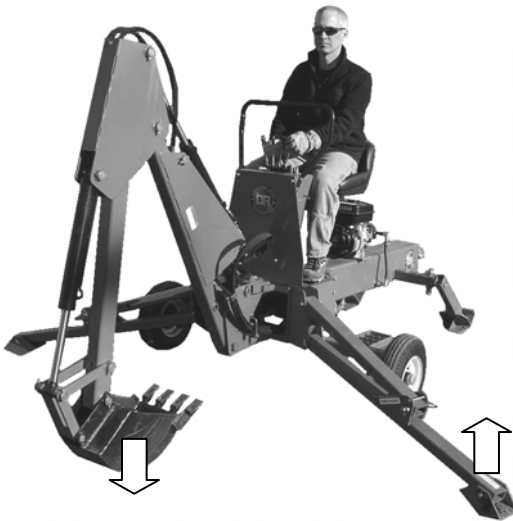

Figure 20
1. Lift the front of the Backhoe by lowering the Boom until the Front Stabilizers lift slightly off the ground (**Figure 20**).